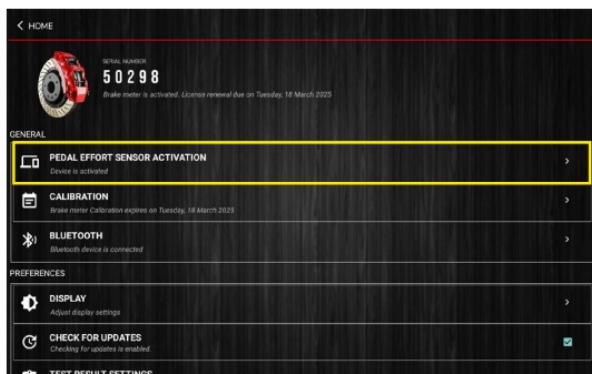

Figure 46
The “Pedal Effort Sensor Activation” entry in the settings is used to activate Pedal Effort Sensor before using them with the WorkShop Pro 10. This will need to be done once. (Figure 46)
2. Select the Pedal Effort Sensor to activate as below. (Figure 46)